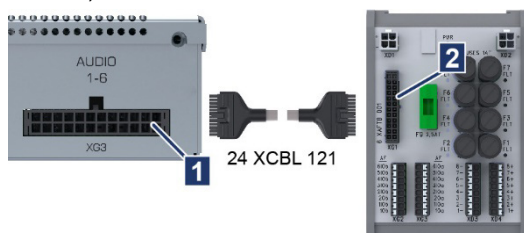

Fig. 6-6: XAL to XAFTB
1. Plug the connection cable 24 XCBL 121 into terminal **XG3** (**AUDIO 1-6**) on the analog line module and into terminal **XG1** on terminal block **XAFTB** (→ Fig. 6-6/1 and 2).